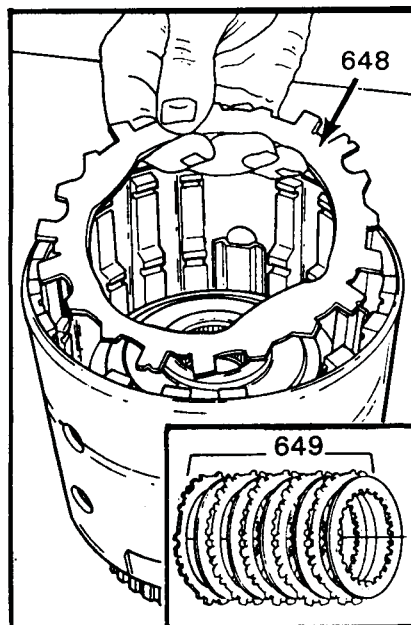

Figure 130
3. Install the forward clutch wave plate on top of the apply plate as shown in Figure 130, with the teeth aligned to the apply plate.